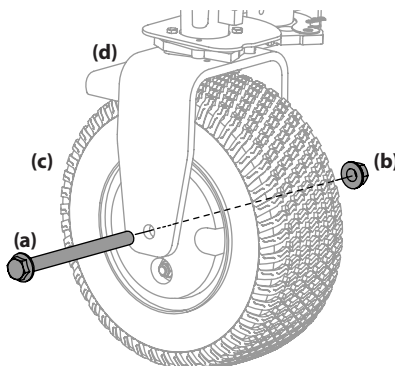

Figure 4-16
1. Remove the hex screw (a) and flange lock nut (b) that secures the front wheel (c) to the yoke assembly (d). See Figure 4-16.